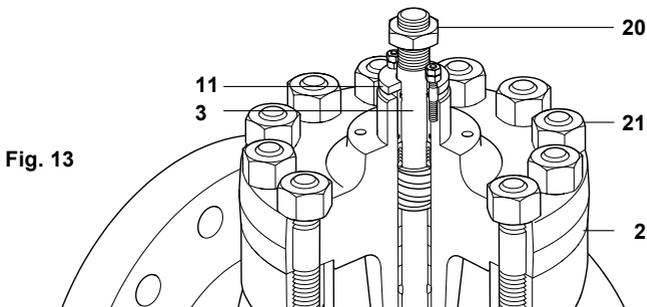

**Fig. 12** DN125 to DN200
- Fit a new bonnet gasket (15).
- By hand tightening only, refit the bonnet nuts (21) to secure the bonnet in place.
- Apply a load to the stem (preferably replace the actuator), then re-tighten the bonnet nuts in sequence (see Figure 12 and Table 2) page 21.
- Tighten the bonnet nuts to 30% of required torque setting following a diametrically opposed sequence (see Figure 12 and Table 2) page 21.
- Tighten the stuffing box nuts (11) until: